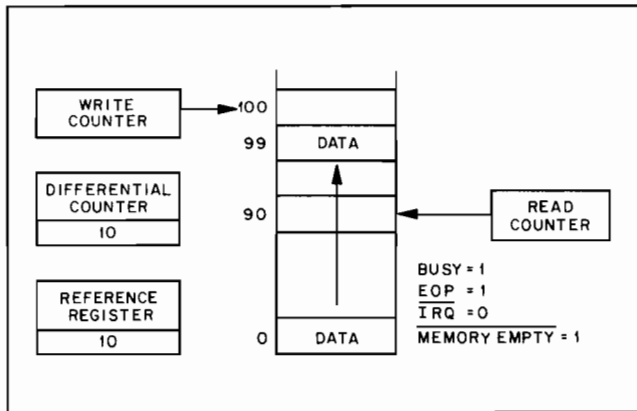

Figure 4-5. Memory After 90 Words Have Been Read By Device.
- e. The value in the differential counter is now equal to the value in the reference register so the End-of-Process (EOP) signal goes high. Because the card is armed, an interrupt request ($\overline{\text{IRQ}}$) is sent to the Multiprogrammer (see Figure 4-5).